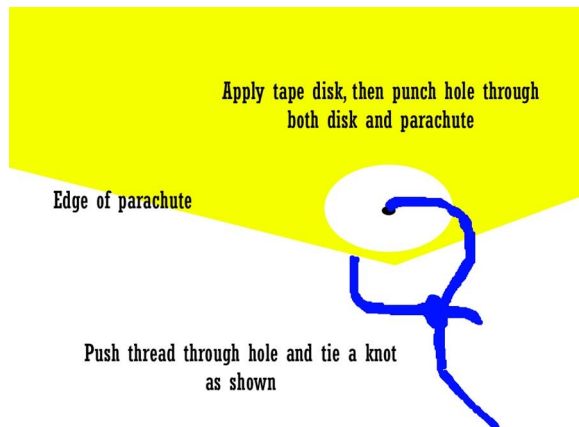

Figure 12
- **Step 34** If you are using the pre-assembled Estes parachute(s) from the CC Express kit, proceed to Step 34B. Otherwise, assemble the SEMROC parachutes as shown in their instruction sheet, but attach the lines to the plastic sheet with a through-the-hole arrangement for added strength. See Fig. 12. Use the tape disks to reinforce the attachment point, but punch a tiny hole through the disk and tie the ends of the thread through this hole.